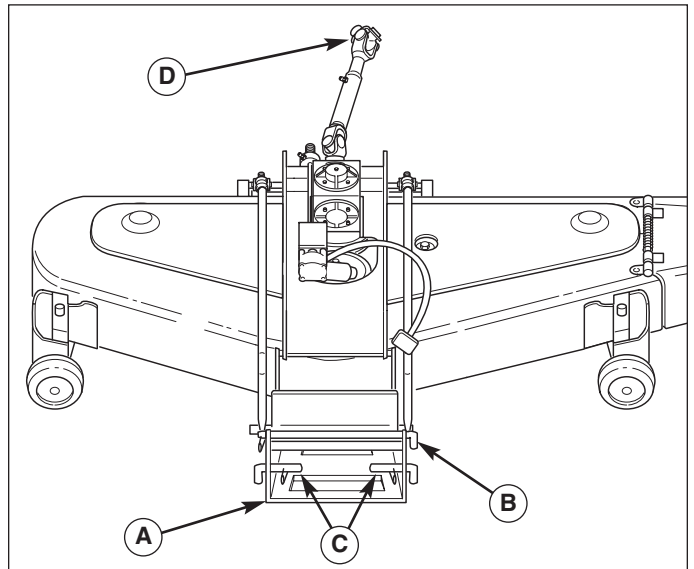

Figure 21. Front Hitch and Pins
13. Remove the long hitch pin (B, Figure 21) and safety clip connecting the hitch (A) to the mower deck.
14. Remove the two small pins (C, Figure 21) connecting the hitch (A) to the tractor.
15. Remove the hitch (A, Figure 21) from the mower deck.
10. Mount the hitch (A, Figure 21) to the deck using the long hitch pin (B).
11. Attach the hitch to the tractor using the two short pins (C, Figure 21) and safety clips.